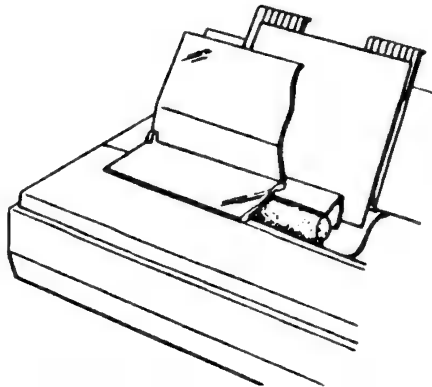

Figure 2-10 Placing the Paper
7. Place a sheet of paper into the Rear Cover. It will slide behind the Platen, see Figure 2-10. If the paper is not inserted correctly, a paper feed error or skewed feeding may occur.